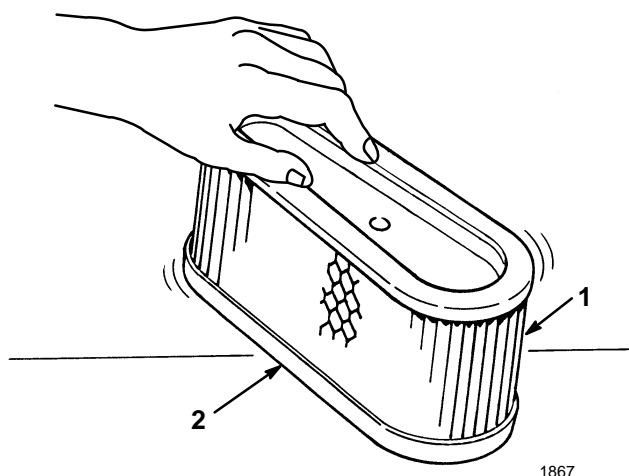

Figure 30
- A. Lightly tap the element on a flat surface to remove dust and dirt (Fig. 30).